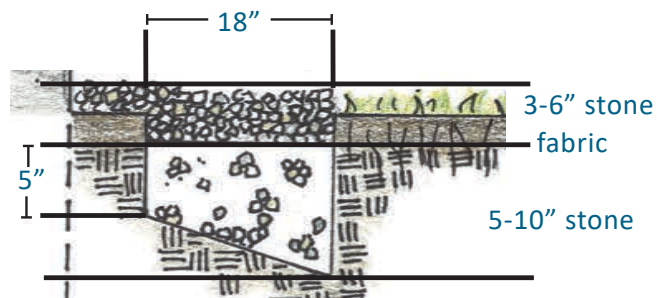

Figure 1 – Profile for well drained soils.
**For Well Drained Soils:** Fill the trench with stone. Fill the trench with 1/2- to 1 1/2-inch washed stone until it is about three inches below the ground level. Place a piece of non-woven geotextile fabric over the stone layer and fill the remaining three inches with additional stone (Figure 1).